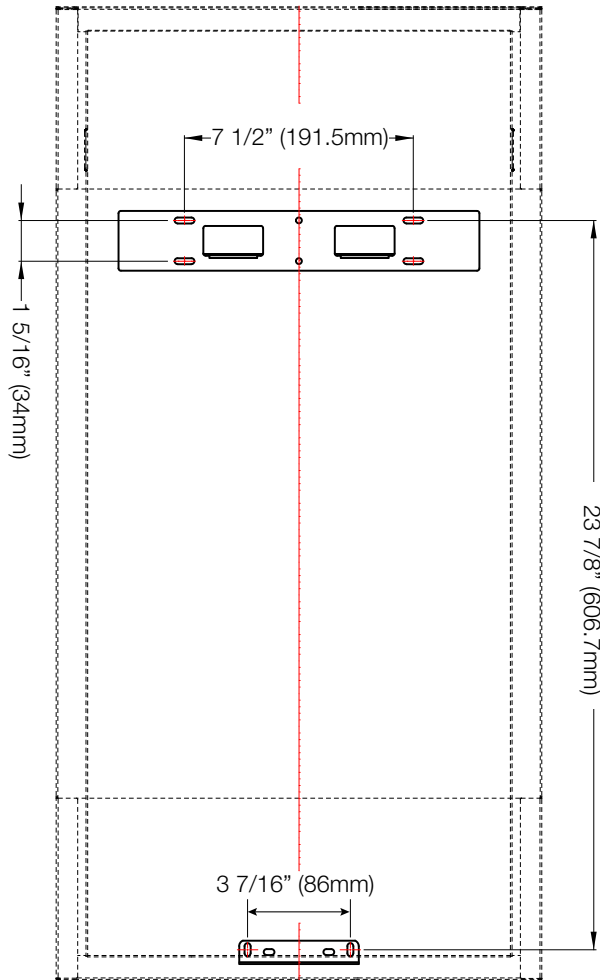
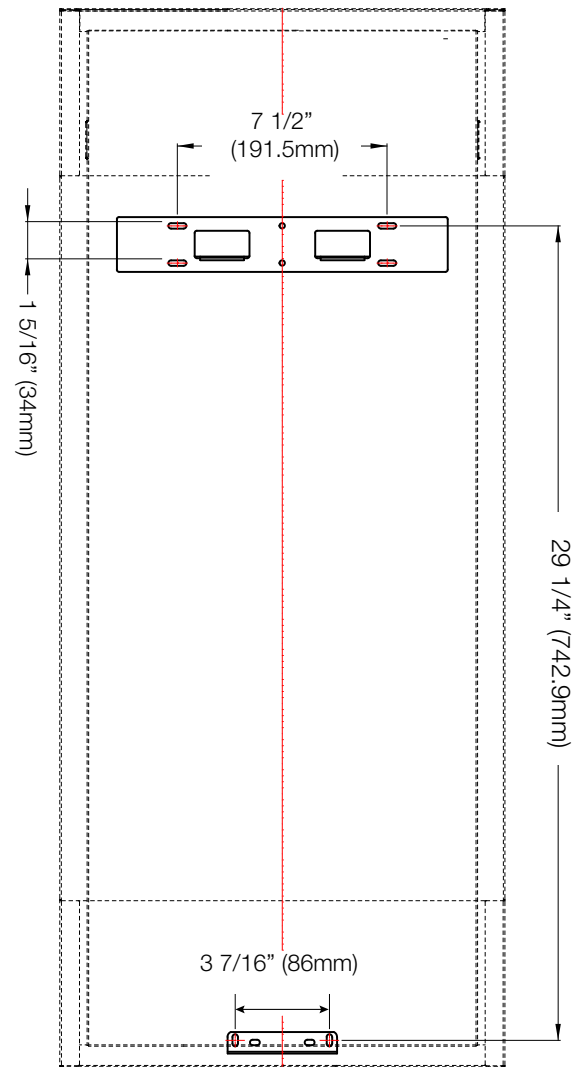

Fig. 2: NEFVC32H Wall Mounting Installation Template
Fig. 3: NEFVC38H Wall Mounting Installation Template
- Using the appropriate wall mounting installation template (**Fig. 2 for NEFVC32H or Fig. 3 for NEFVC38H**), mark out the back and bottom bracket locations on the wall.
2. Place the glass into the track located inside the firebox (**Fig. 2**).
3. Push the top of the glass against the top of the plastic panel (**Fig. 3**).
2. For ease of removal, use the bracket hooks to reach behind the glass and pull it forward (**Fig. 3**).